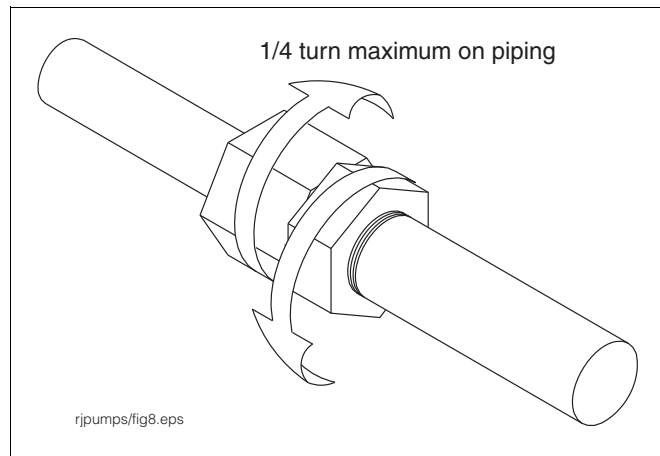

Figure 9. Loosening Locking Nut
4. Loosen the clinch assembly on the column pipe by unscrewing the set screw in the side of locking nut, then backing off the locking nut (see Figure 9).